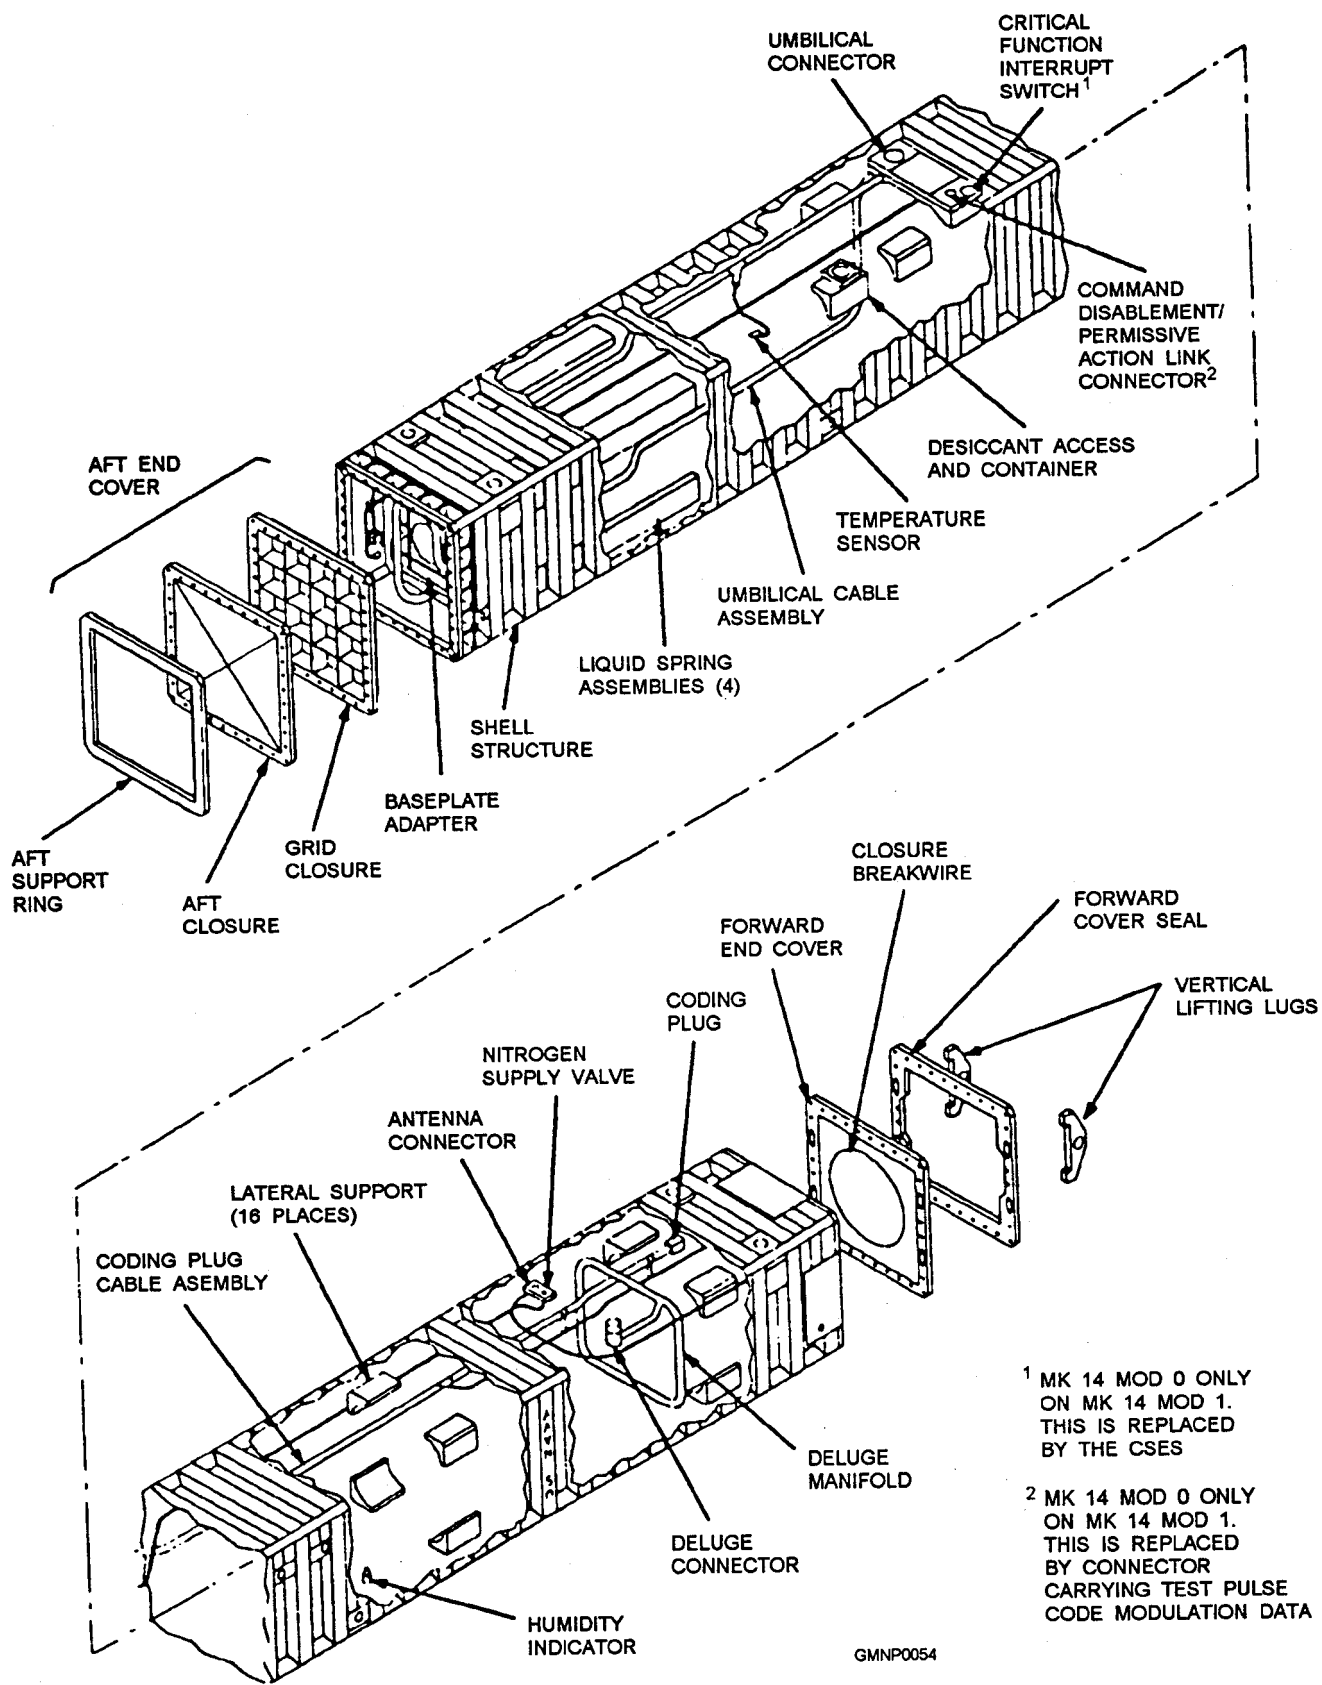

Figure 2-39.—Mk 14 Mods 0 & 1 canisters.
**MK 14 MODS 0 & 1 VLS CANISTERS.**— The Mk 14 Mods 0 & 1 canisters provide environmental protection, structural and alignment support of the Tomahawk All-Up-Round (AUR) (fig. 2-39). The AUR consists of a missile and booster sealed in a canister that is nitrogen charged to provide additional environmental protection. The shell structure contains a thermal protective lining to reduce structural temperature during launch. The Mk 14 Mod 1 canister uses a CSES for